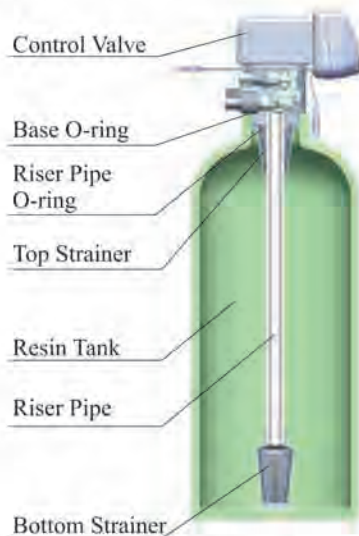

Figure 1-1
- ①The filter or softener should be located close to the drain.
- ②Ensure the unit is installed in enough space for operating and maintenance.
- ③Brine tank needs to be close to softener.
- ④The unit should be kept away from the heater, and not be exposed outdoor. Sunshine or rain will cause the system damage.
- ⑤Please avoid to install the system in one acid/alkaline, Magnetic or strong vibration circumstance, because above factors will cause the system disorder.
⑥ Do not install the filter or softener, drain pipeline in circumstance which temperature may drop below 5℃, or above 50℃.
⑦ The system should be installed in a place where there will be the minimum loss in case of water leakage.
① Install control valve
a. As the Figure 1-1 shows, select the riser pipe with 26.7mm OD, glue the riser pipe to the bottom strainer and put it into the mineral tank, cut off the exceeding tube out of tank top opening. Plug the riser tube in case of mineral entering.